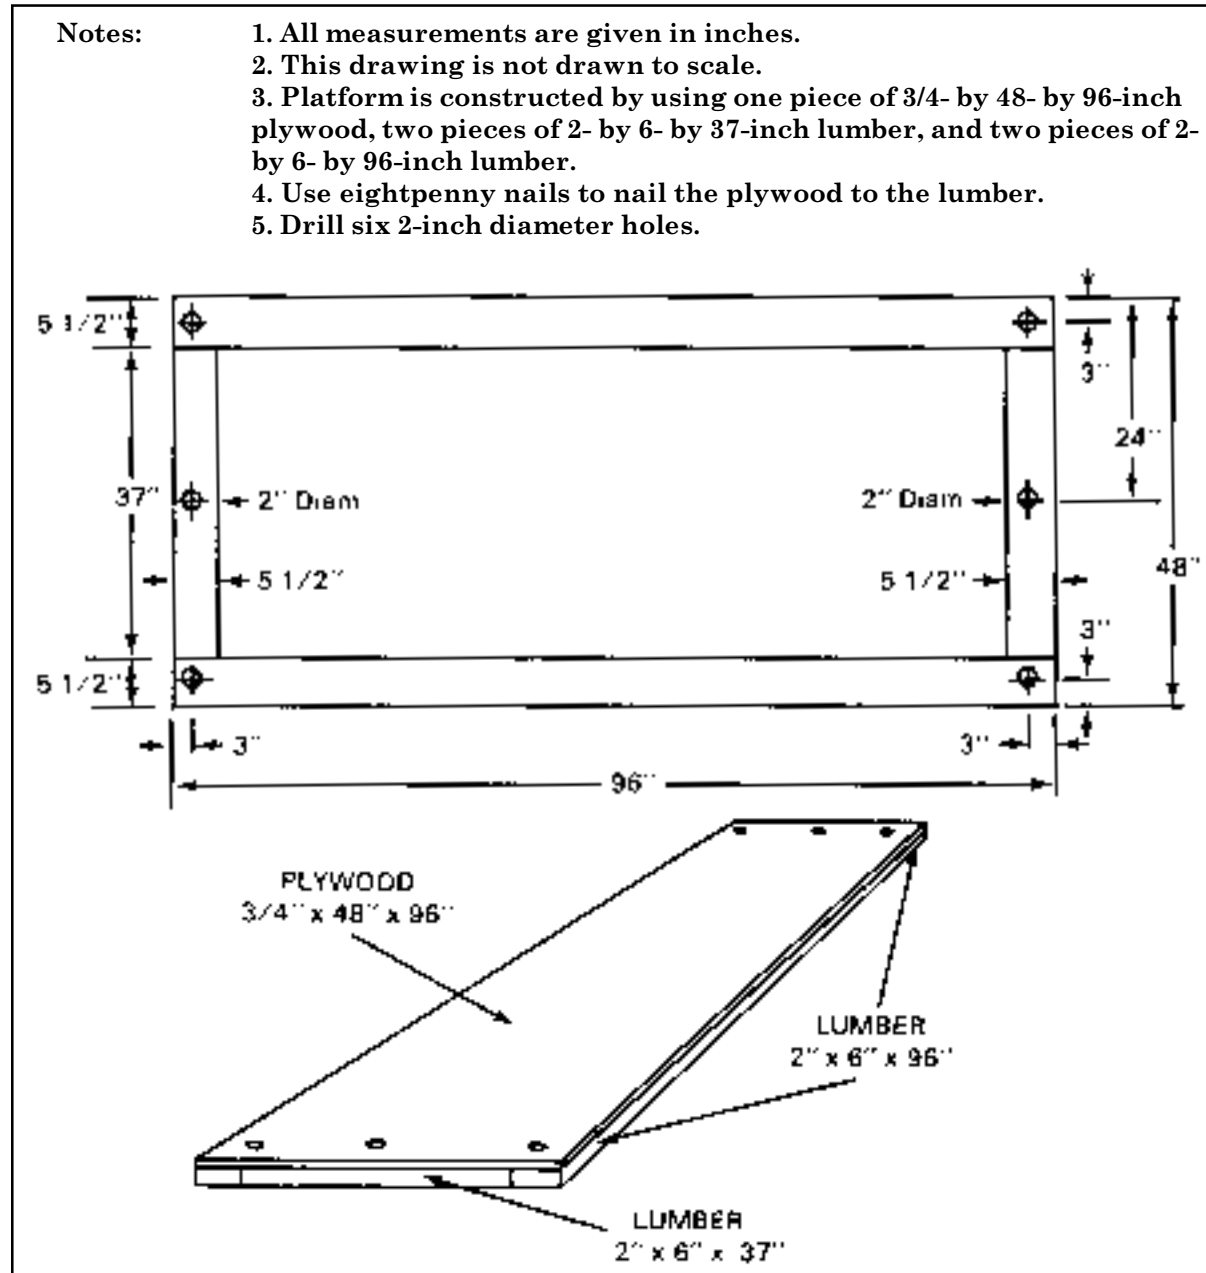

Figure 2-24. Construction Details for Parachute Stowage Platform
a. Building Stowage Platform. Build the stowage platform using the dimensions in Figure 2-24.